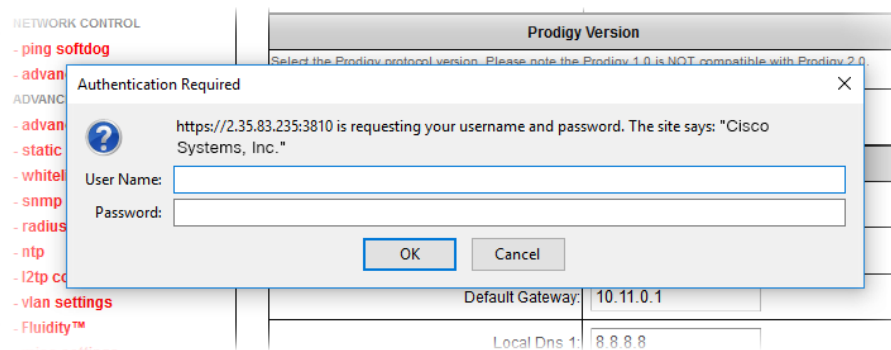

Figure 56. Web browser (Authentication Required dialog)
- The web browser will show the **Authentication Required** dialog (Figure 56 (page 100)). If needed, use the dialog to log in again.